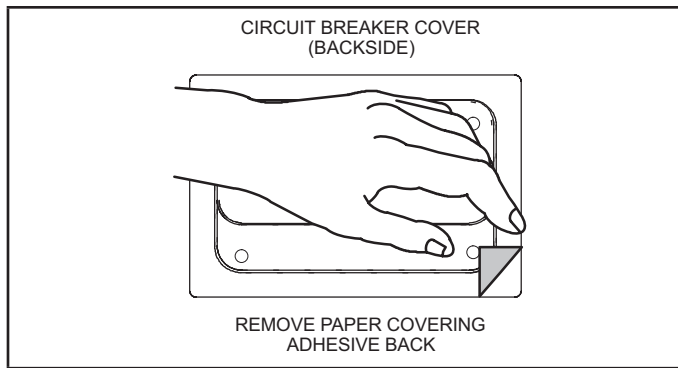

FIGURE 10. Remove Paper Cover
- 2 - Remove paper backing from the adhesive around the perimeter of the back side of the circuit breaker cover (FIGURE 10).